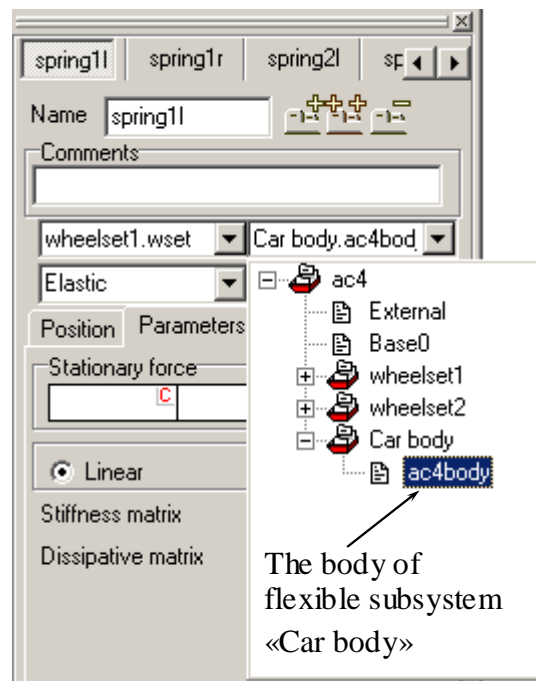

Figure 11.17.
- When you describe a joint or a force element for the flexible subsystem you should select a fictitious rigid body that has the solution name as one of the body in the joint/force, see Fig. 11.17.